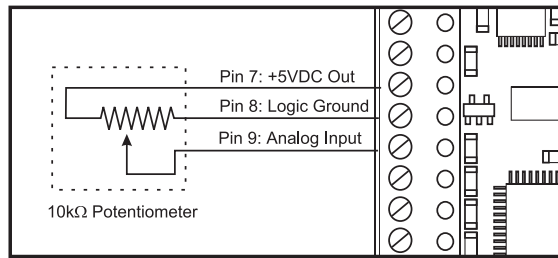

Figure 2.2.7: Interfacing the Speed Control Input with a Potentiometer
This 0 - 5 volt analog input will typically be interfaced using a 10kΩ potentiometer as illustrated in Figure 2.2.7, a joystick wiper or by a 0 to 5V (4 - 20 mA) analog output. If a constant velocity is desired, the speed control input can be connected directly to the +5VDC output and the desired velocity set using the VM parameter. When at 0 volts + DB (value of the potentiometer deadband parameter) the step clock frequency will be at the value specified by the initial velocity (VI) parameter. When at FS (the value specified by the full scale parameter), it will be at the value specified by the maximum velocity (VM) parameter. See Setting the Initial/Maximum Velocity, for more details.